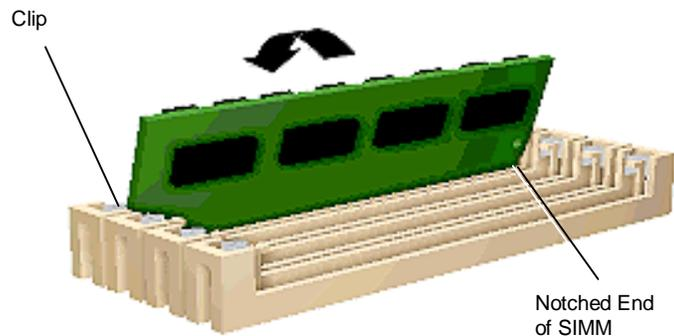

Figure 3-10 Inserting the SIMM
5. Tilt the SIMM towards the locking tabs using equal pressure at the ends of the SIMM until it locks into the socket (see Figure 3-10).